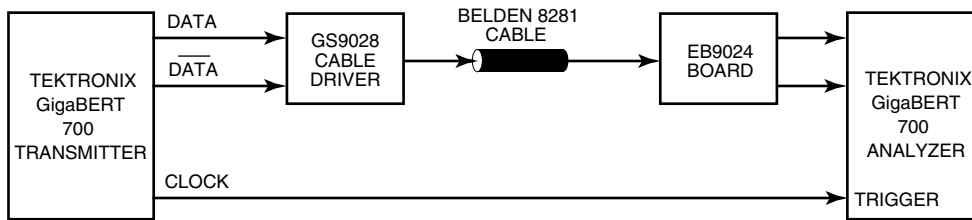

Fig. 1 Test Setup for Figure 3.
- 4. Evaluated using test setup Figure 1.